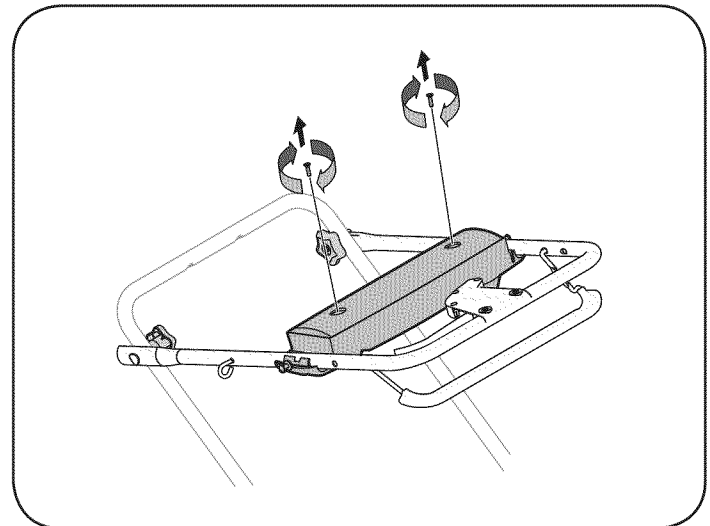

Figure 19
1. Loosen star knobs securing upper and lower handles and carefully fold the upper handle down toward the lower handle as shown in Figure 19.
2. Remove the two screws securing battery cover to battery housing and place them to the side. See Figure 19.
NOTE: The battery you have may differ slightly from the one shown in Figure 19. Refer to the Parts List.
1. Open the battery cover as described in Replacing Battery. See Figure 19.